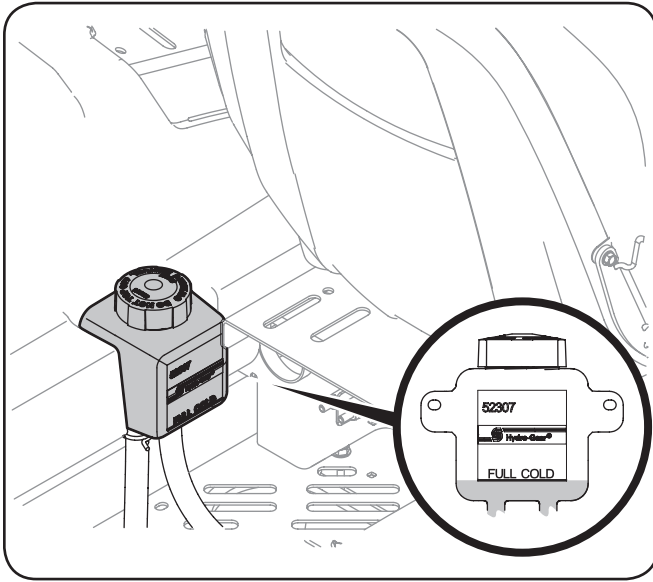

Figure 6-6
1. Pivot the operator's seat forward and clean the reservoir cap and the area around the cap to prevent debris from contaminating the transmission oil. See Figure 6-6.
2. Turn the reservoir cap counterclockwise to re-move, then check the oil level in the reservoir. Oil should be visible at the bottom of the cup, but the oil level must NOT be above the "FULL COLD" line. See Figure 6-6. DO NOT FILL THE RESERVOIR.